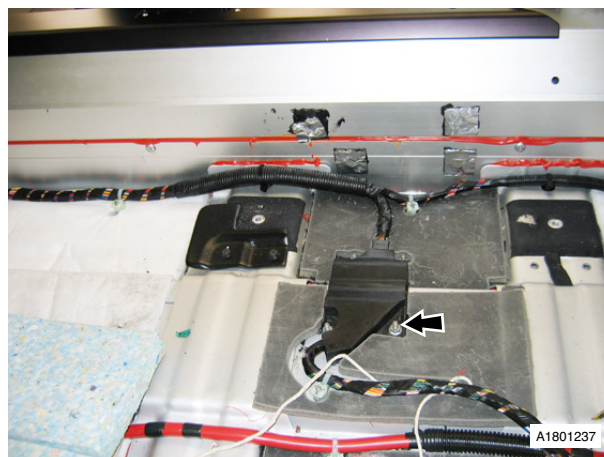

Fig. 18
53. Release harness from floor (bolts x4) and pull forward into footwell (see Fig. 18).